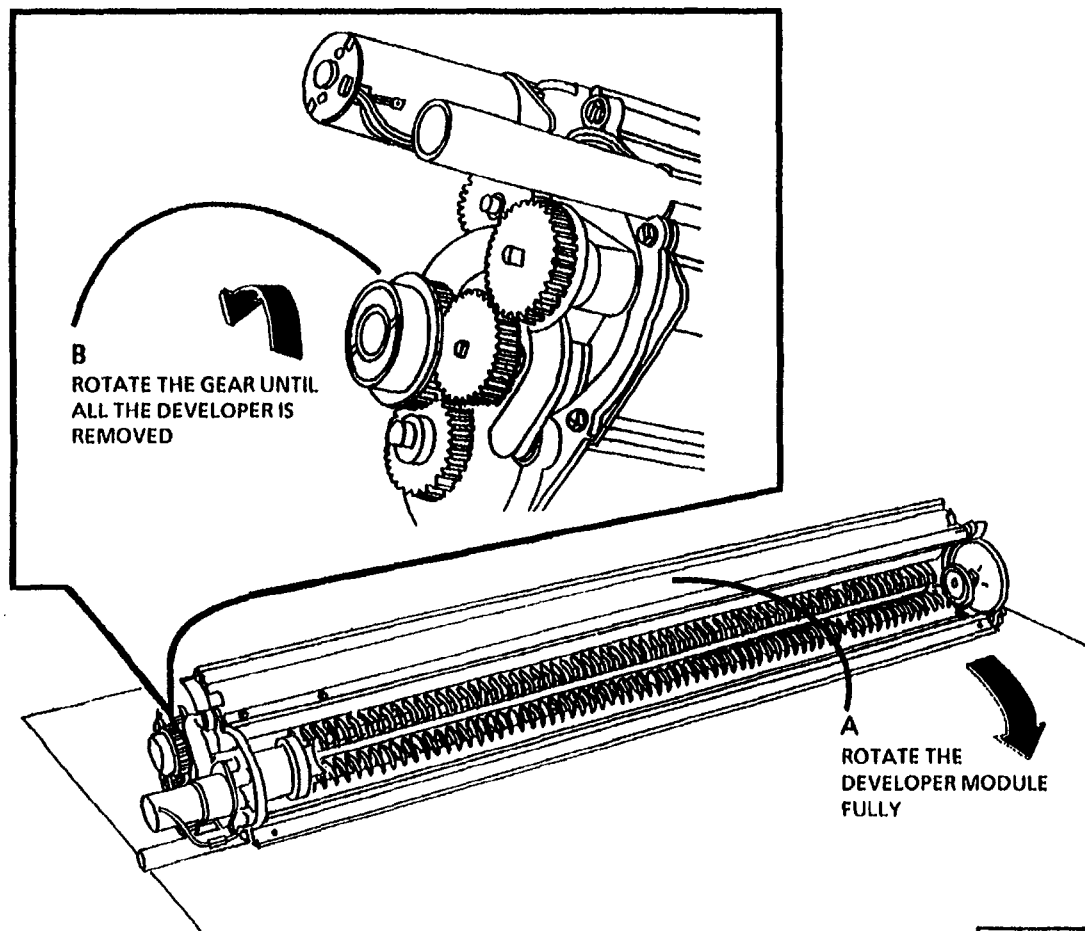

Figure 10. Dump the Developer Material
17. (Figure 10): Dump the Developer Material.